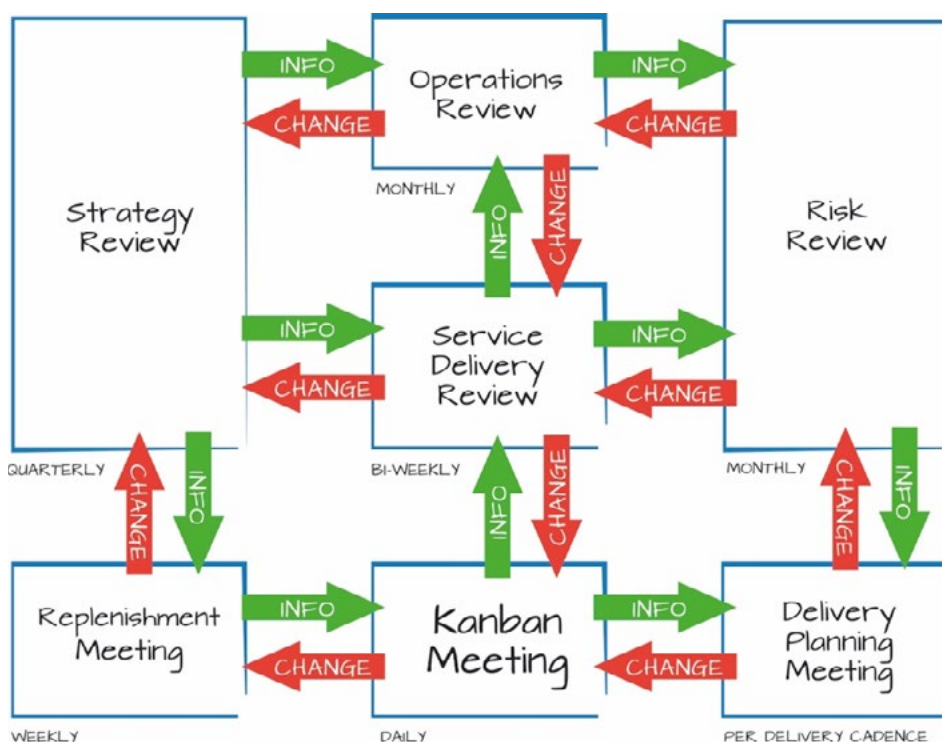

Figure 2 A set of cadences showing feedback loops
- Enterprise Services Planning feedback opportunities, as shown in Figure 2,¹ with an immediate commitment to a monthly operations review.